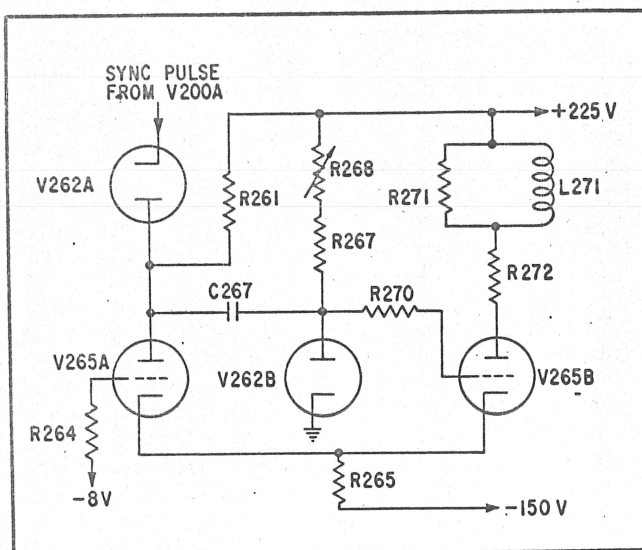

Figure 3-2. Simplified Diagram of Multivibrator Circuit
**3-12. GENERAL.** There are 13 divider circuits employed in the Model 1817, each containing a triggered multivibrator circuit. (See figures 3-2 and 5-2.) The fourteenth marker receives its signal directly from the crystal-controlled oscillator. The 10, 50, 100 and 500 microsecond markers are the high-frequency dividers. The 1, 5, 10 and 50 millisecond markers are the intermediate dividers. The 100 and 500 millisecond and the 1 and 5 second markers are the low-frequency dividers.
a. Operation of each divider circuit is essentially the same. Each circuit consists of a bi-stable multivibrator with diode coupling for triggering pulses. Operation of these circuits is described in the paragraphs that follow. Figure 3-2 is a simplified schematic diagram of a multivibrator circuit and should be referred to during the following description.